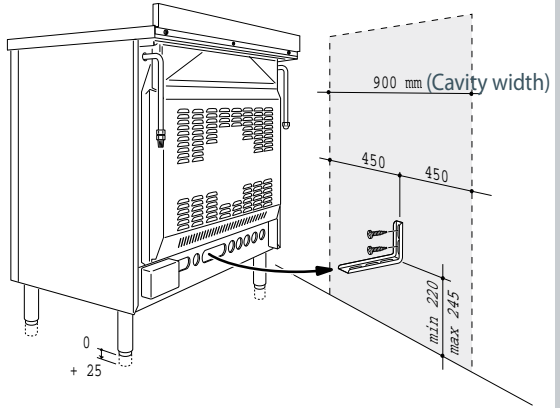

Fig. 10a Fitting the anti-tilt bracket
- 1 After you have located where the cooker is to be positioned, mark on the wall the place where the two screws of the anti-tilt bracket have to be fitted. Please follow the indications given in Fig.10a.
- 4 Move the cooker to the wall and adjust the height of the anti-tilt bracket so that it can engage in the slot on the cooker's back, as shown in Fig.10a.